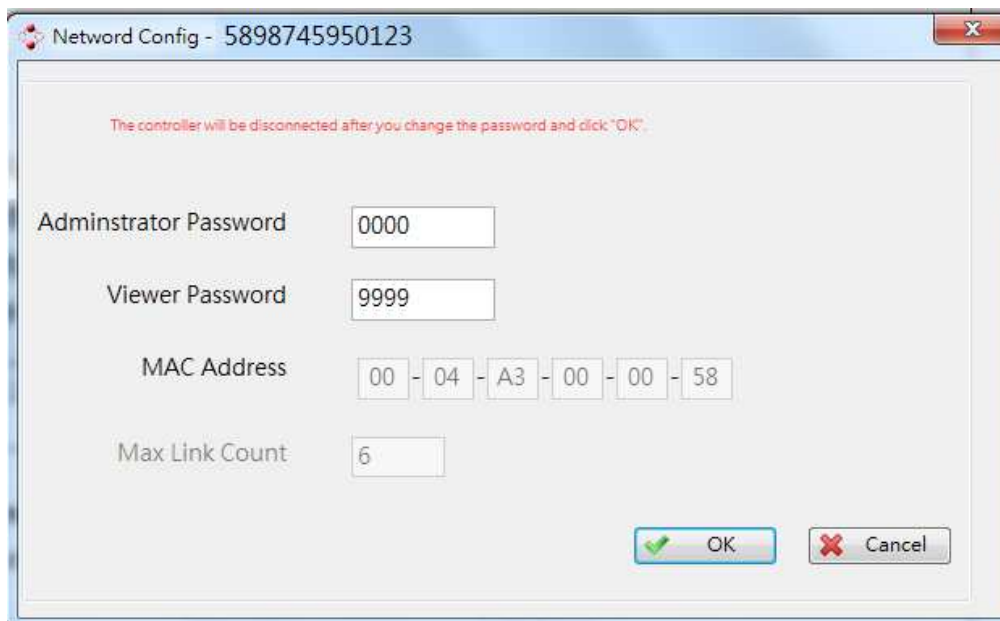

Figure 4-4 KCU Module Configuration
1. After you connect a controller successfully, click  to access Network Configuration. (See Figure 4-4)